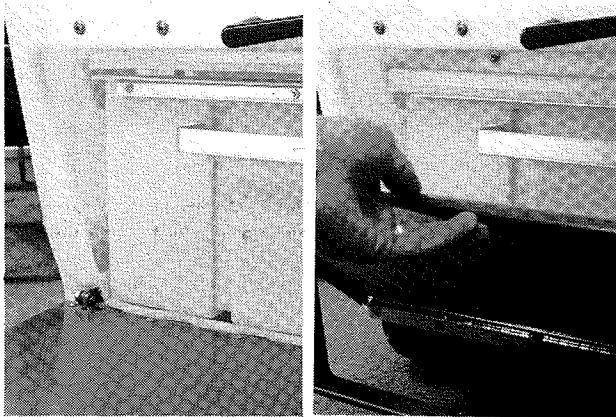

Figure 6
4. When the hopper becomes full, it must be emptied. Open the hopper door, pull out the hopper and empty. Replace the hopper and close the door, making sure that the filter housing seals over the top of the hopper as shown in **Figure 6**.